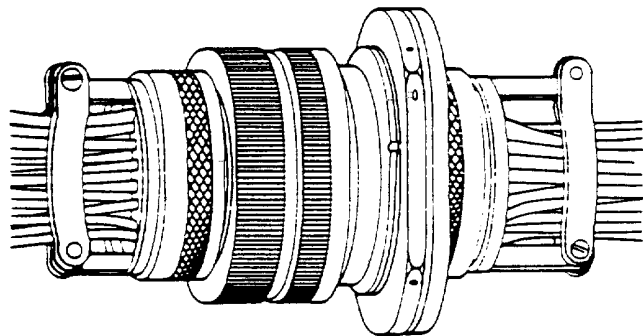

Figure 1. Typical Connector System
5. **CONNECTOR SYSTEM.** A connector system (Figure 1) consists of two mating assemblies, a plug and a receptacle. The plug usually is on the end of a cable originating in a piece of equipment. The receptacle is usually fastened to a fixed structure or to a piece of equipment.